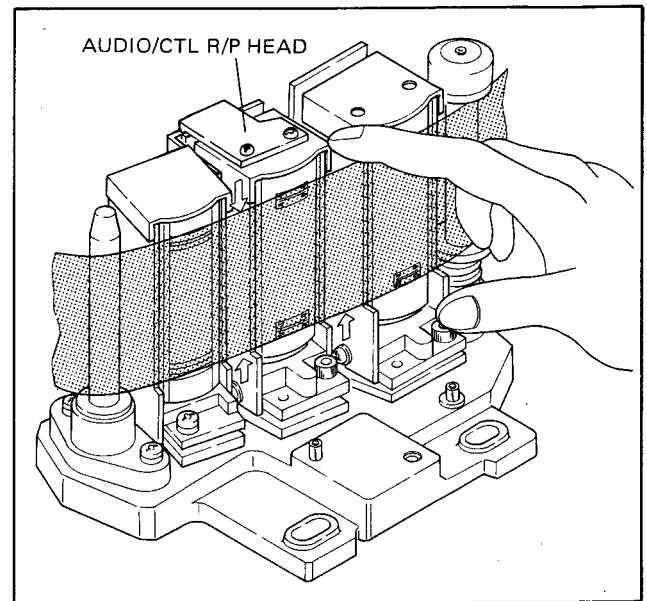

Fig. 10-34. Audio/CTL R/P Head Height Check
3. Check that clearance "G" becomes wide when the tape edge near the audio/CTL R/P head is pushed up or down, as shown in Fig. 10-34.